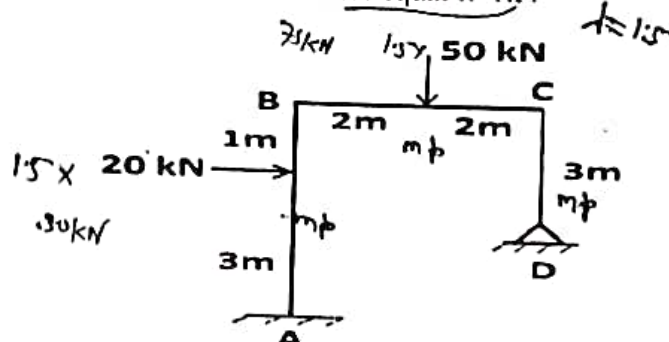

Fig. 5
- Please find the fully plastic moment required for the frame shown in Fig. 5, if all the members have the same value of  $M_p$ . Take load factor equal to 1.5.